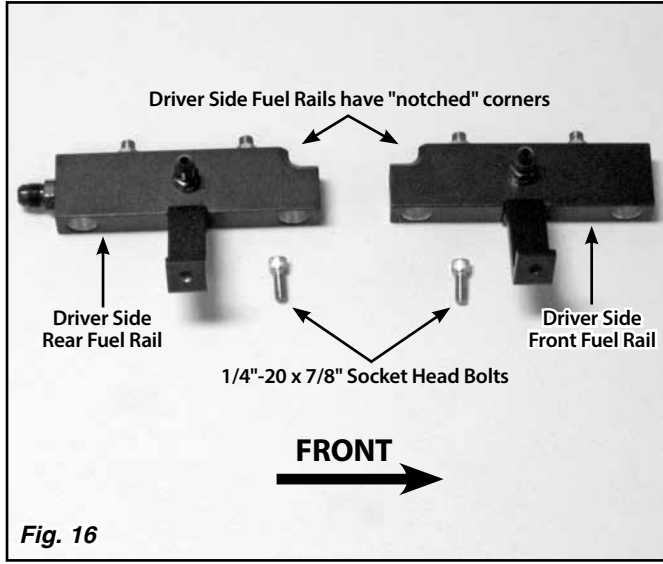

Fig. 16
Step 15: Determine the correct position of the four fuel rails on the lower manifold. Note that the driver side rear and passenger side rear fuel rails (with the -6 AN fittings on the ends) will be installed with the -6 AN fittings pointing towards the rear of the engine. Two of the fuel rails are "notched" in one corner to provide clearance for the throttle body adapter and will be installed on the driver side of the manifold. **Fig. 16**